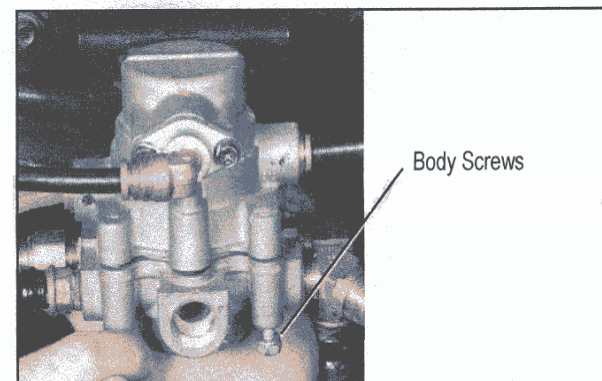

Figure 9 - SECURING THE UPPER & LOWER BODY
2. As shown in Figure 9, align the valve lower body with the upper body. Push the body halves together. Insert two of the four screws (finger tight) into the lower body mounting holes closest to the supply port first. This will help with alignment. One screw is included in this kit in the event one is lost during installation.